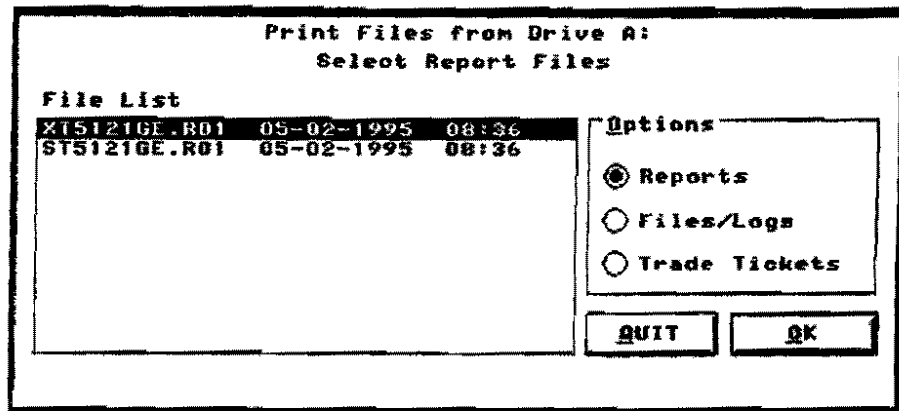

Figure 12.24 Print Files from Drive A: Dialog Box
1. Insert a diskette containing reports/files into Drive A:. Select **Print File (from A:)** in the Print menu to display the dialog box shown in Figure 12.24. The dialog box includes Options radio buttons and a file list. When the dialog box appears, **Reports** is the highlighted option. A list of reports (if any) on the diskette in Drive A: is shown with the first file highlighted.